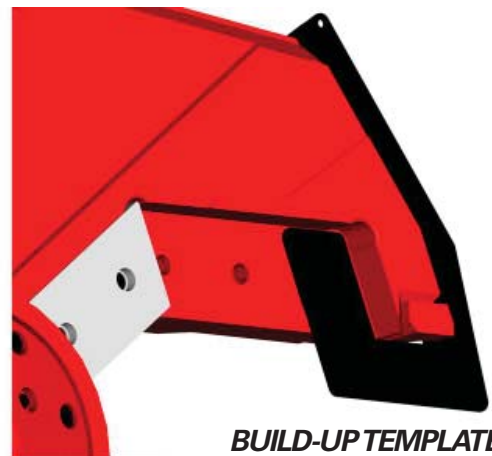

FIGURE 5-32
6. Check the tip profile with the build up template supplied by Stanley LaBounty (see **Figure 5-32**).